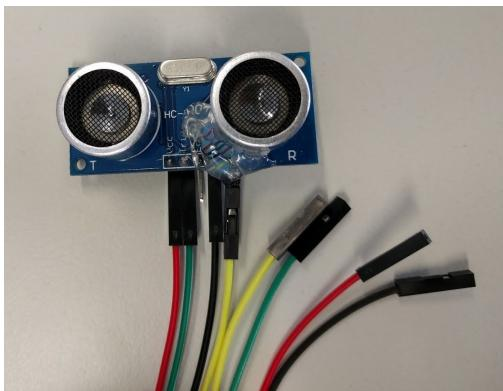

Figure 1.5: Wired ultrasonic sensor
- Connect the step down converter to the battery and to the Raspberry Pi. Make sure the +5V output from the converter go to the red power wire of the Pi (refer to Figure 1.5) and the ground pin of converter is connected to ground pin of Pi, as in the photo below (ignore the values written on the battery):